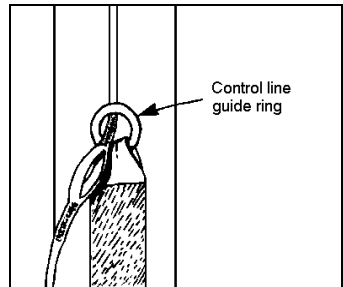

Figure 3.
STEP 4.) Route the canopy control lines through to the control line guide rings. (See Figure 3.) **WARNING!** The control lines must pass directly through their respective control line guide-rings on the back of the rear risers.